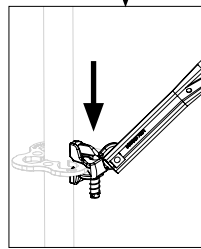
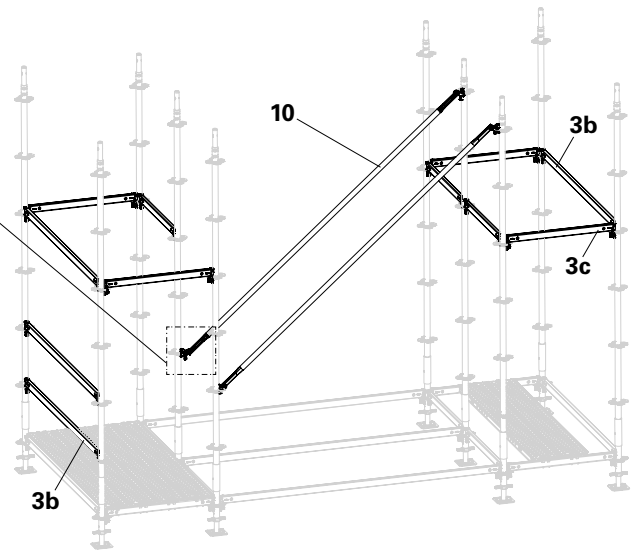

Fig. A1.17
Fig. A1.15
3. Fit Node Braces UBK (**10**) into the bottom rosettes. (Fig. A1.15 to Fig. A1.17)